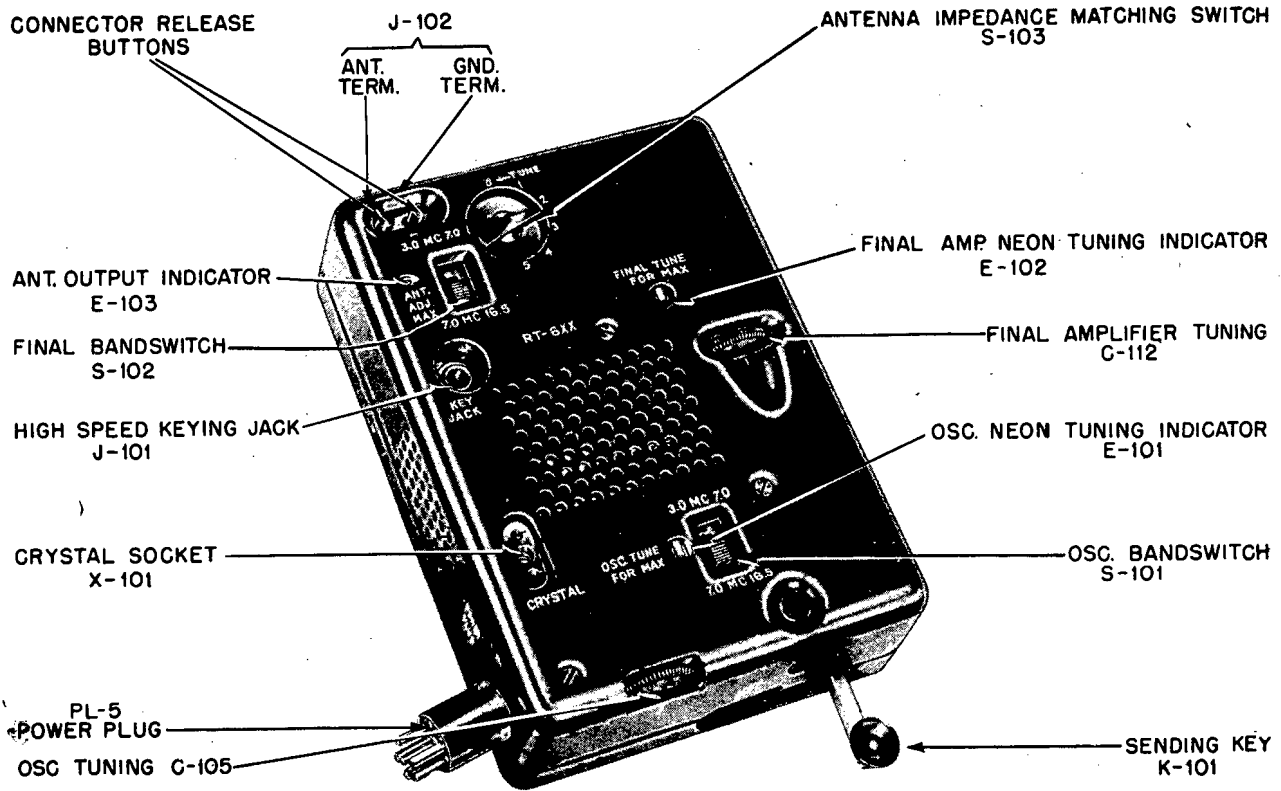

Figure 9. Transmitter RT-6-XX showing control locations
### 1. CONTROLS & FUNCTIONS (See Figure 9).
5. TUNING (Refer to Figure 9).
- (1) by the sending key (Figure 9),
- (2) by plugging the automatic high-speed keyer in KEY JACK (Figure 9), or
- (3) by inserting frequency shift unit in the crystal socket for frequency shift operation.